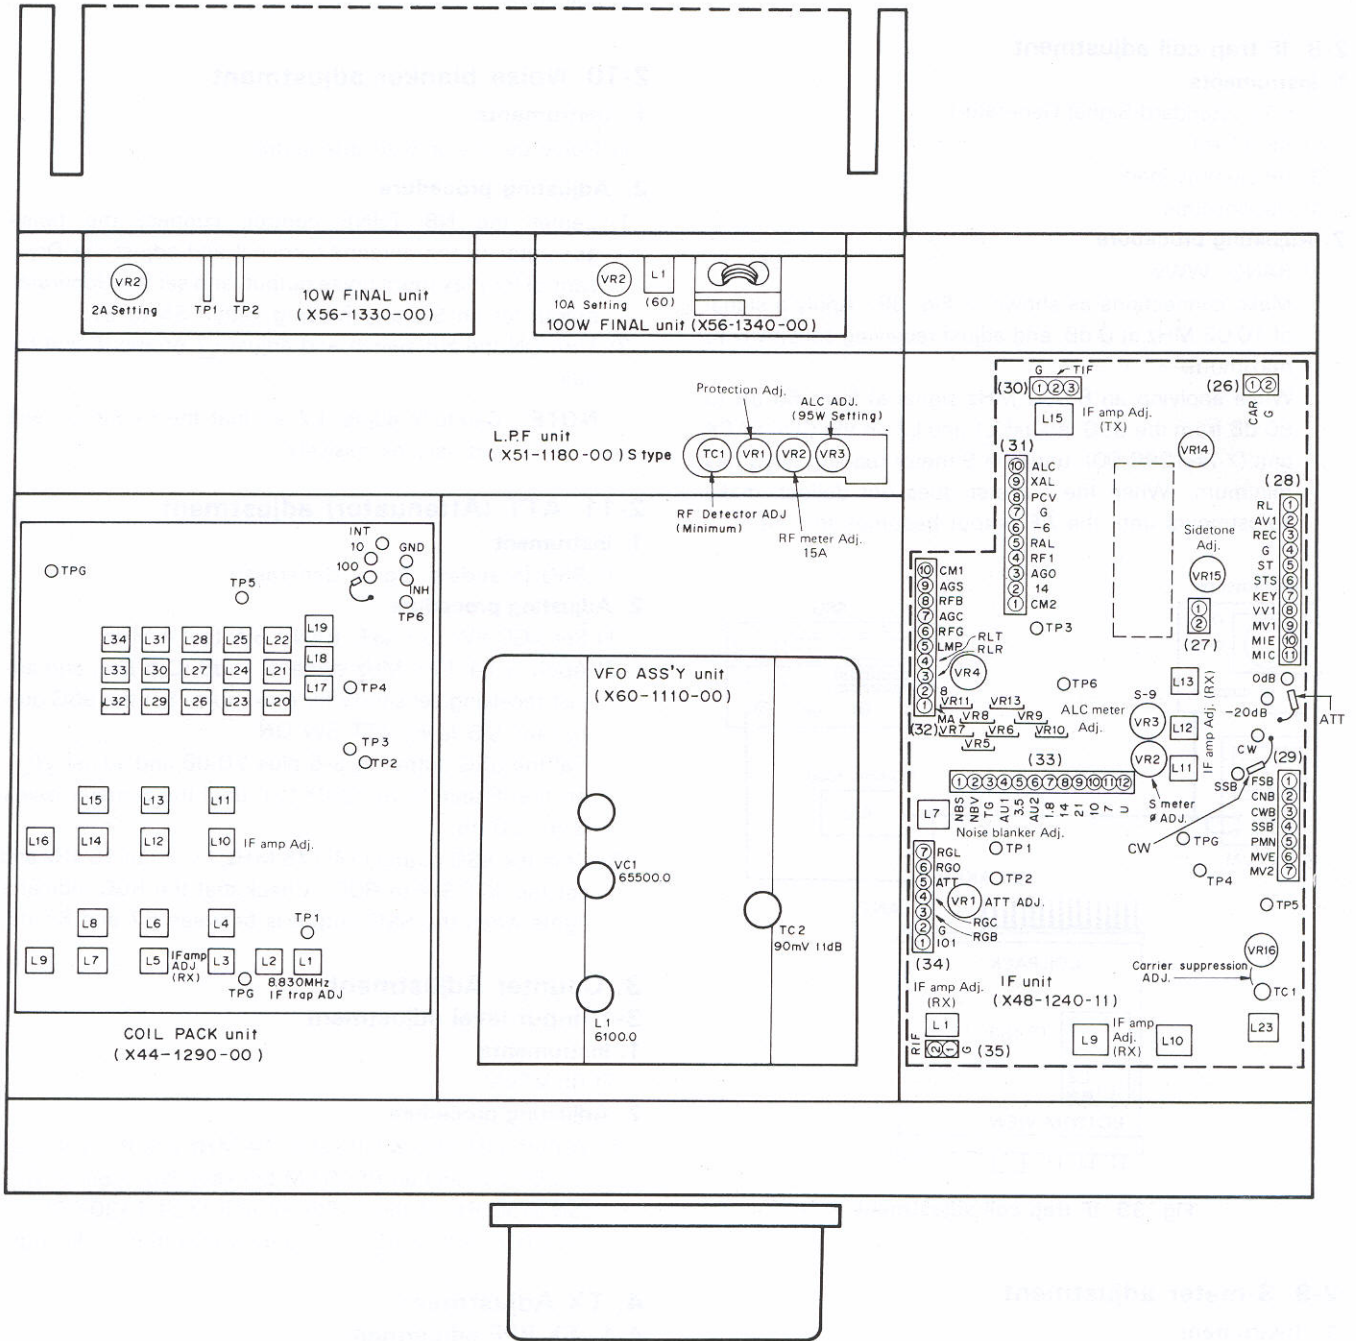

Fig. 38 TS-180 Bottom view
- 2) Apply SSG output at 60 dB (500 μ V) to the antenna terminal and adjust the COILPACK unit (X44-1290-00) in the order listed for maximum AF output and sensitivity. Reduce the SSG output as sensitivity increases (refer to Fig. 38 Table 3).
- 3) Adjust T4 on the RF unit (X44-1280-00), L1, L9 to L13 on the IF unit (X48-1240-11) and L3, L10 on the COILPACK unit (X44-1290-00) for maximum S meter reading. After adjustment, turn the L9 core counterclockwise 180° from oscillation starting point. (refer to Fig. 38)
Turn the Meter switch to the Ic position, and adjust VR2 in the FINAL for an Ic meter reading of 10 A. (refer to Fig. 38)